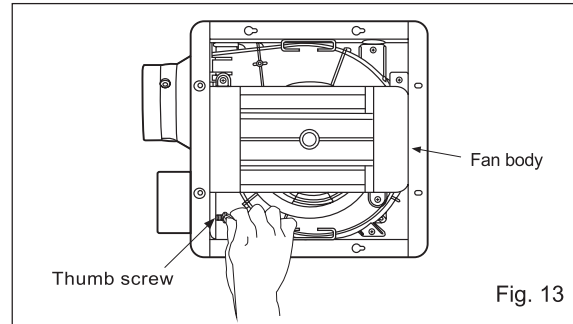

Fig. 13
1. Before installation, secure the fan body to adaptor by using thumb screw (Fig. 13). Secure the lighting unit to fan body (referring to Fig.6 of page 7).
1. Before installation, secure the fan body to adaptor by using thumb screw (Fig. 13). Secure the lighting unit to fan body (referring to Fig. 6 of page 7).
1. Before installation, secure the fan body to adaptor by using thumb screw (Fig. 13 of page 9). Secure the lighting unit to fan body (referring to Fig. 6 of page 7).